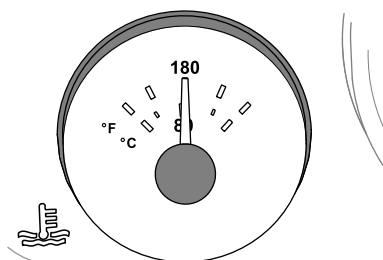

Figure 82
- E. Operate the engine for 5 minutes or until the coolant temperature gauge in the instrument cluster indicates 82°C (180°F), then stop the engine (Figure 82).